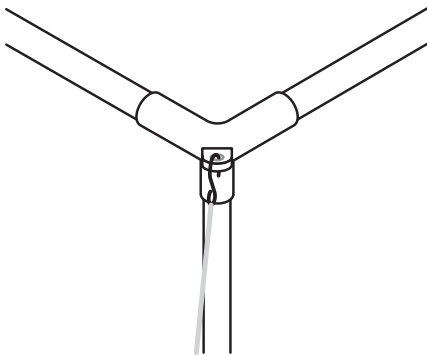

Figure 12
2. Attach the hook of the tension strap to the loop of the corner piece (figure 12).
1. Attach the hook of the tension strap to the loop of the corner piece (figure 12).